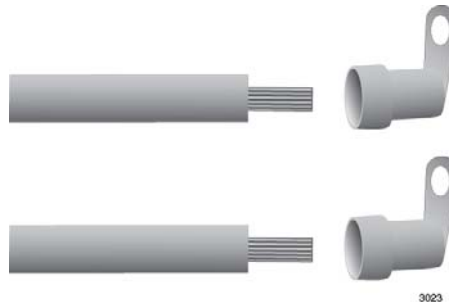

Figure 117. Attaching the Power Wires to the Right Angle Terminals
3. Insert the power wires into the right angle terminals included with the power supply and use a crimping tool to secure the wires to the terminals. See Figure 117,